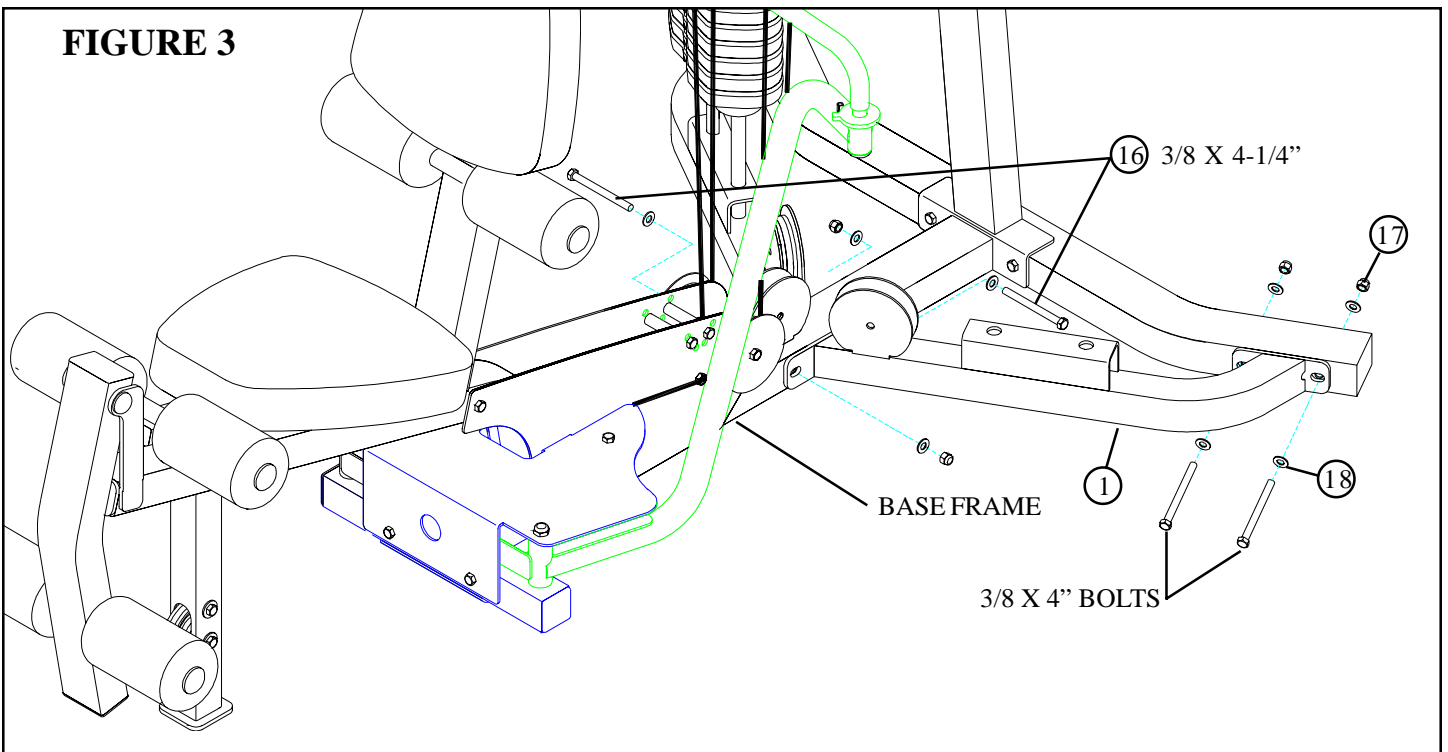

**FIGURE 2**
- Remove the two 3/8 X 4" BOLTS, four 3/8" WASHERS and two 3/8" LOCK NUTS from the REAR UPRIGHT as shown in FIGURE 2.